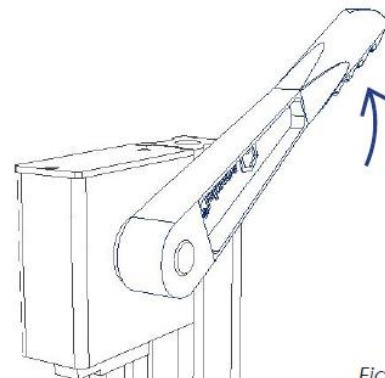

Fig.4
4. Move the lever to operate the punches. It is advisable to have the punching machine firmly fixed to a workbench. Figure 4